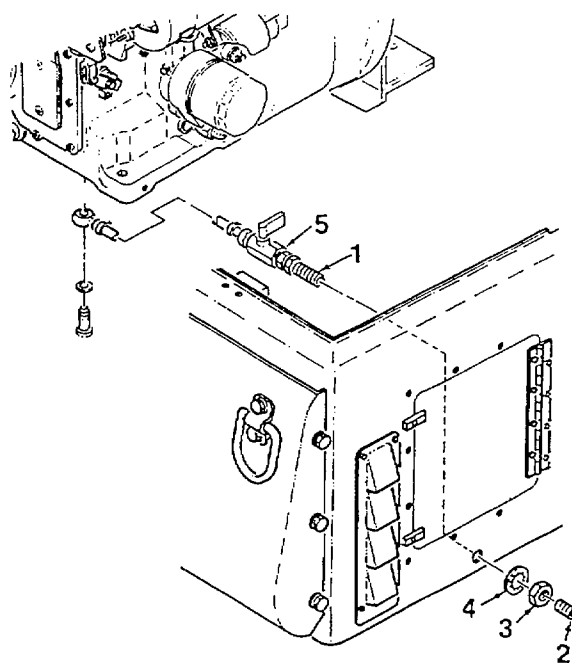

Figure 4-36. Oil Drain Assembly
2. Place a suitable container beneath drain plug (2, Figure 4-36). Drain engine oil by removing plug and turning oil drain valve handle (5).
3. Remove nut (3) and washer (4) from oil drain bulkhead fitting (1).
1. Insert oil drain assembly bulkhead fitting (1, Figure 4-36) through hole in enclosure. Secure using nut (3) and washer (4).
2. Install allen head plug (2) and close oil drain valve by turning handle.